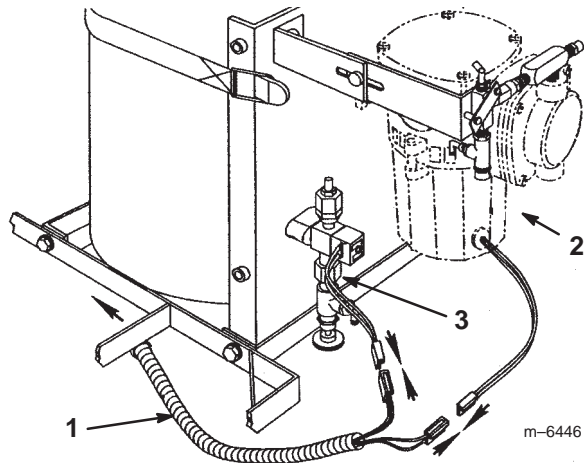

Figure 5
- Locate the wiring harness and make the connections to the compressor and the solenoid located at the foam tank/compressor assembly (Fig. 5).
Note: Both of the plug connections are identical (Fig. 5).